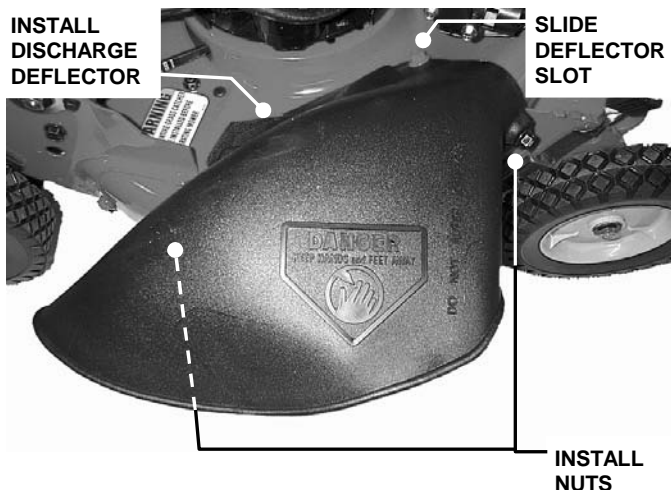

FIGURE 2.15
- C. Install discharge deflector and secure to deck using hardware just removed in Step A. Slot in front edge of discharge deflector must be under nut as shown and both bolts protruding through holes in the side of the deflector. Secure nuts to the side of deflector. Tighten nuts securely. See Figure 2.15.